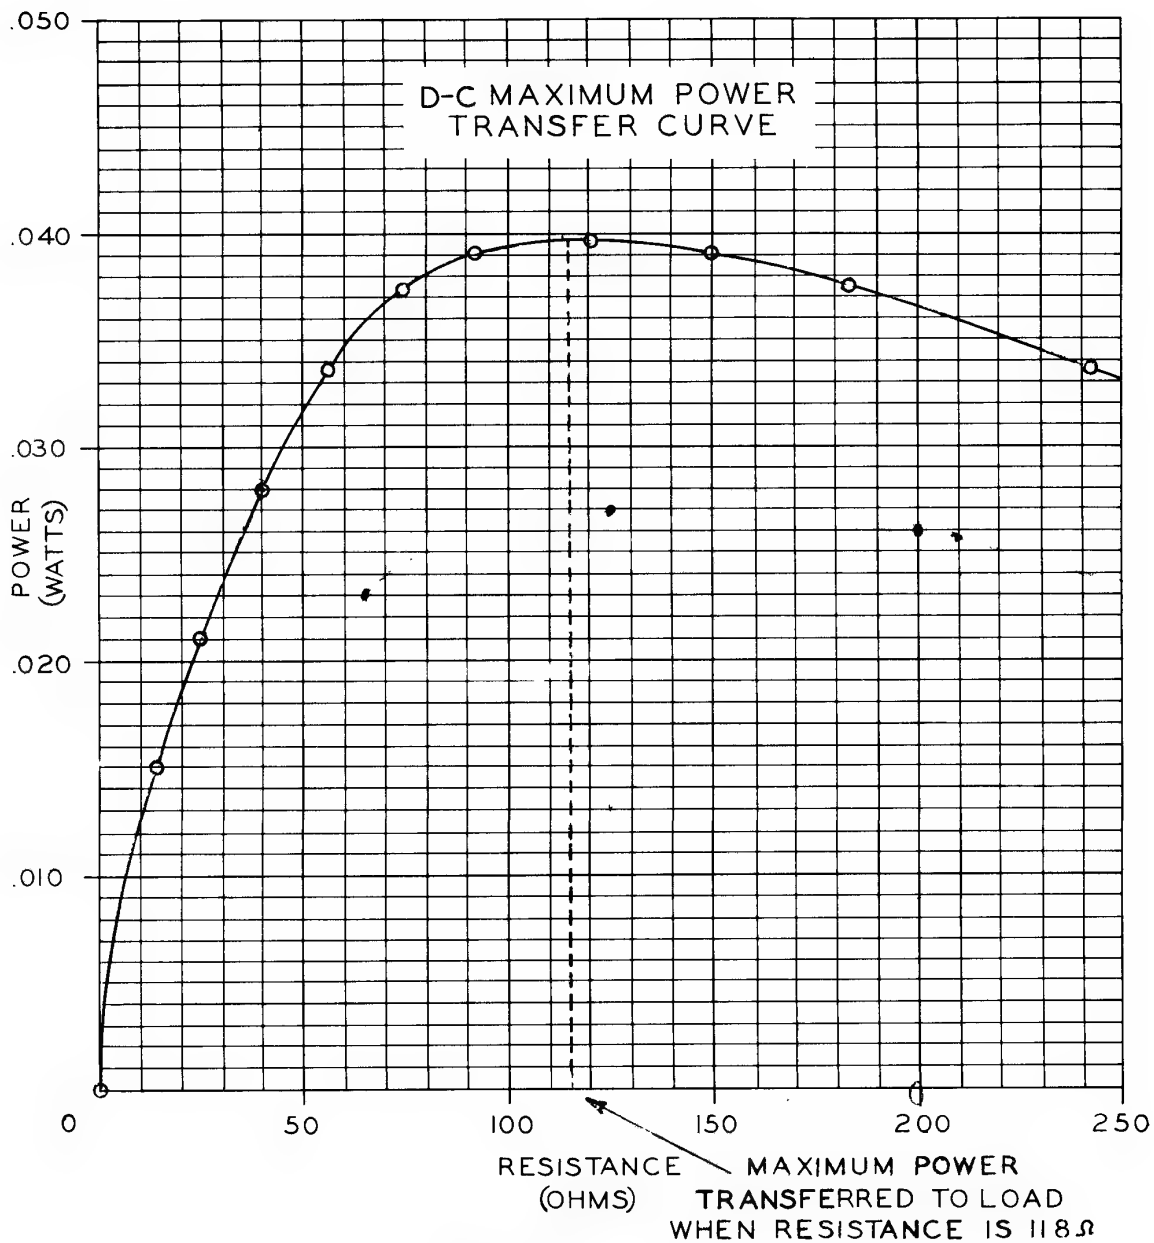
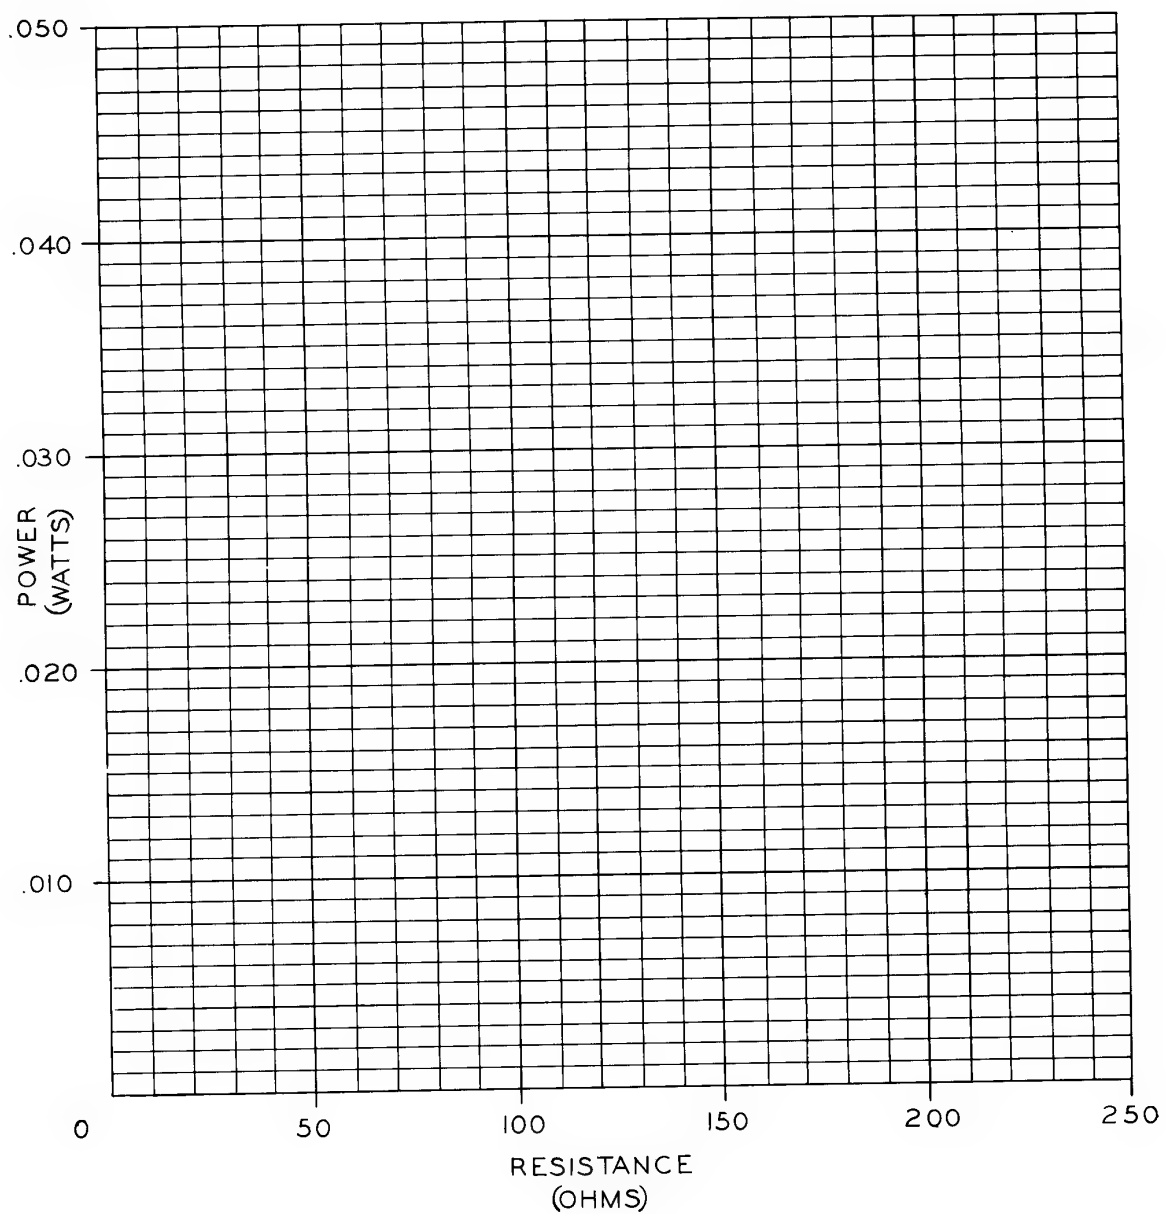

Figure 4-10
Figure 4-11
2. On the graph paper provided, Figure 4-11, plot the resistance and power values as calculated and draw a curved line joining these points (see Figure 4-10).
3. From the curve, obtain the value of load resistance corresponding to maximum load power and compare this value with the 120 ohm internal resistance of the power source (see Figure 4-10).